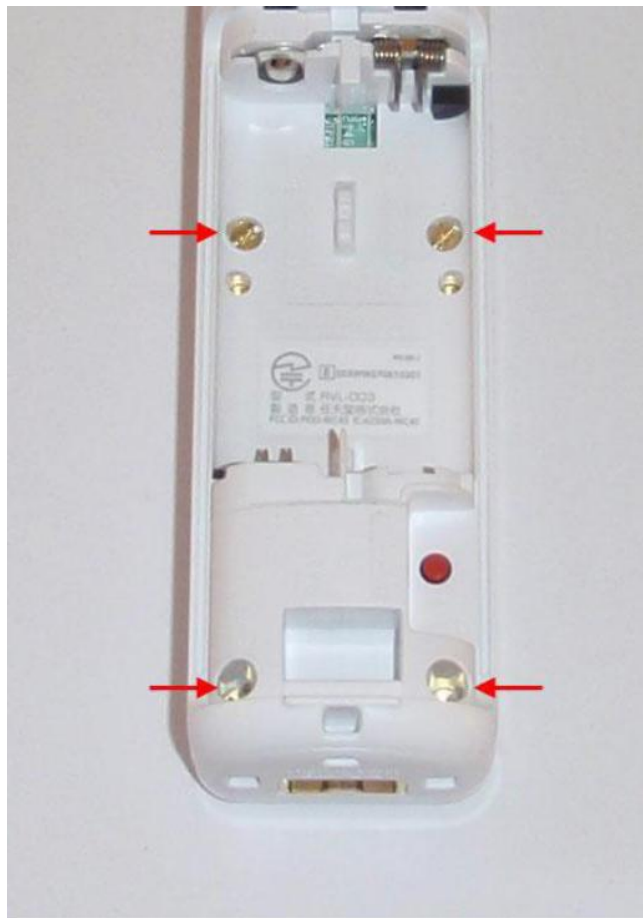

Figure 2-location off four screws
1. Remove the battery cover and the two batteries. Then remove the four screws as pictured below, figure 2. (**Be careful not to turn the screw too tightly it could result for the screws not to hold anymore (stripping)**).